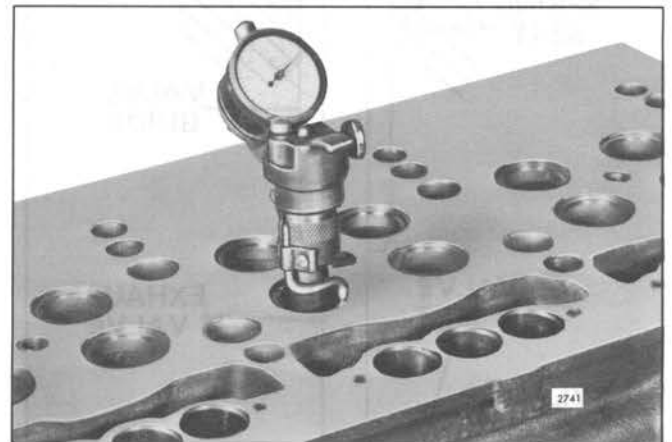

Fig. 15 – Checking Relative Concentricity of Valve Seat Insert with Relation to Valve Guide
5. After the grinding has been completed, clean the valve seat insert thoroughly with fuel oil and dry it with compressed air. Set the dial indicator J 8165-2 in position (Fig. 15) and rotate it to determine the concentricity of each valve seat insert relative to the valve guide. Total runout should not exceed .002". If a runout of more than .002" is indicated, check for a bent or worn valve guide before regrinding the insert.